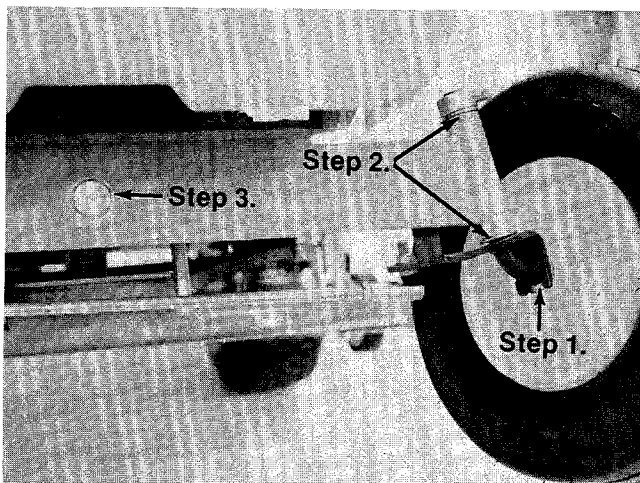

FIGURE 20.
1. **Wheel Bearings (4).** Lubricate with SAE 30 oil after every 25 hours of operation or once a season. (See figure 20.)
2. **King Pins (2).** Lubricate with SAE 30 oil after every 25 hours of operation or once a season. (See figure 20.)
3. **Front Pivot Bolt (1).** Lubricate with SAE 30 oil after every 25 hours of operation or once a season. (See figure 20.)